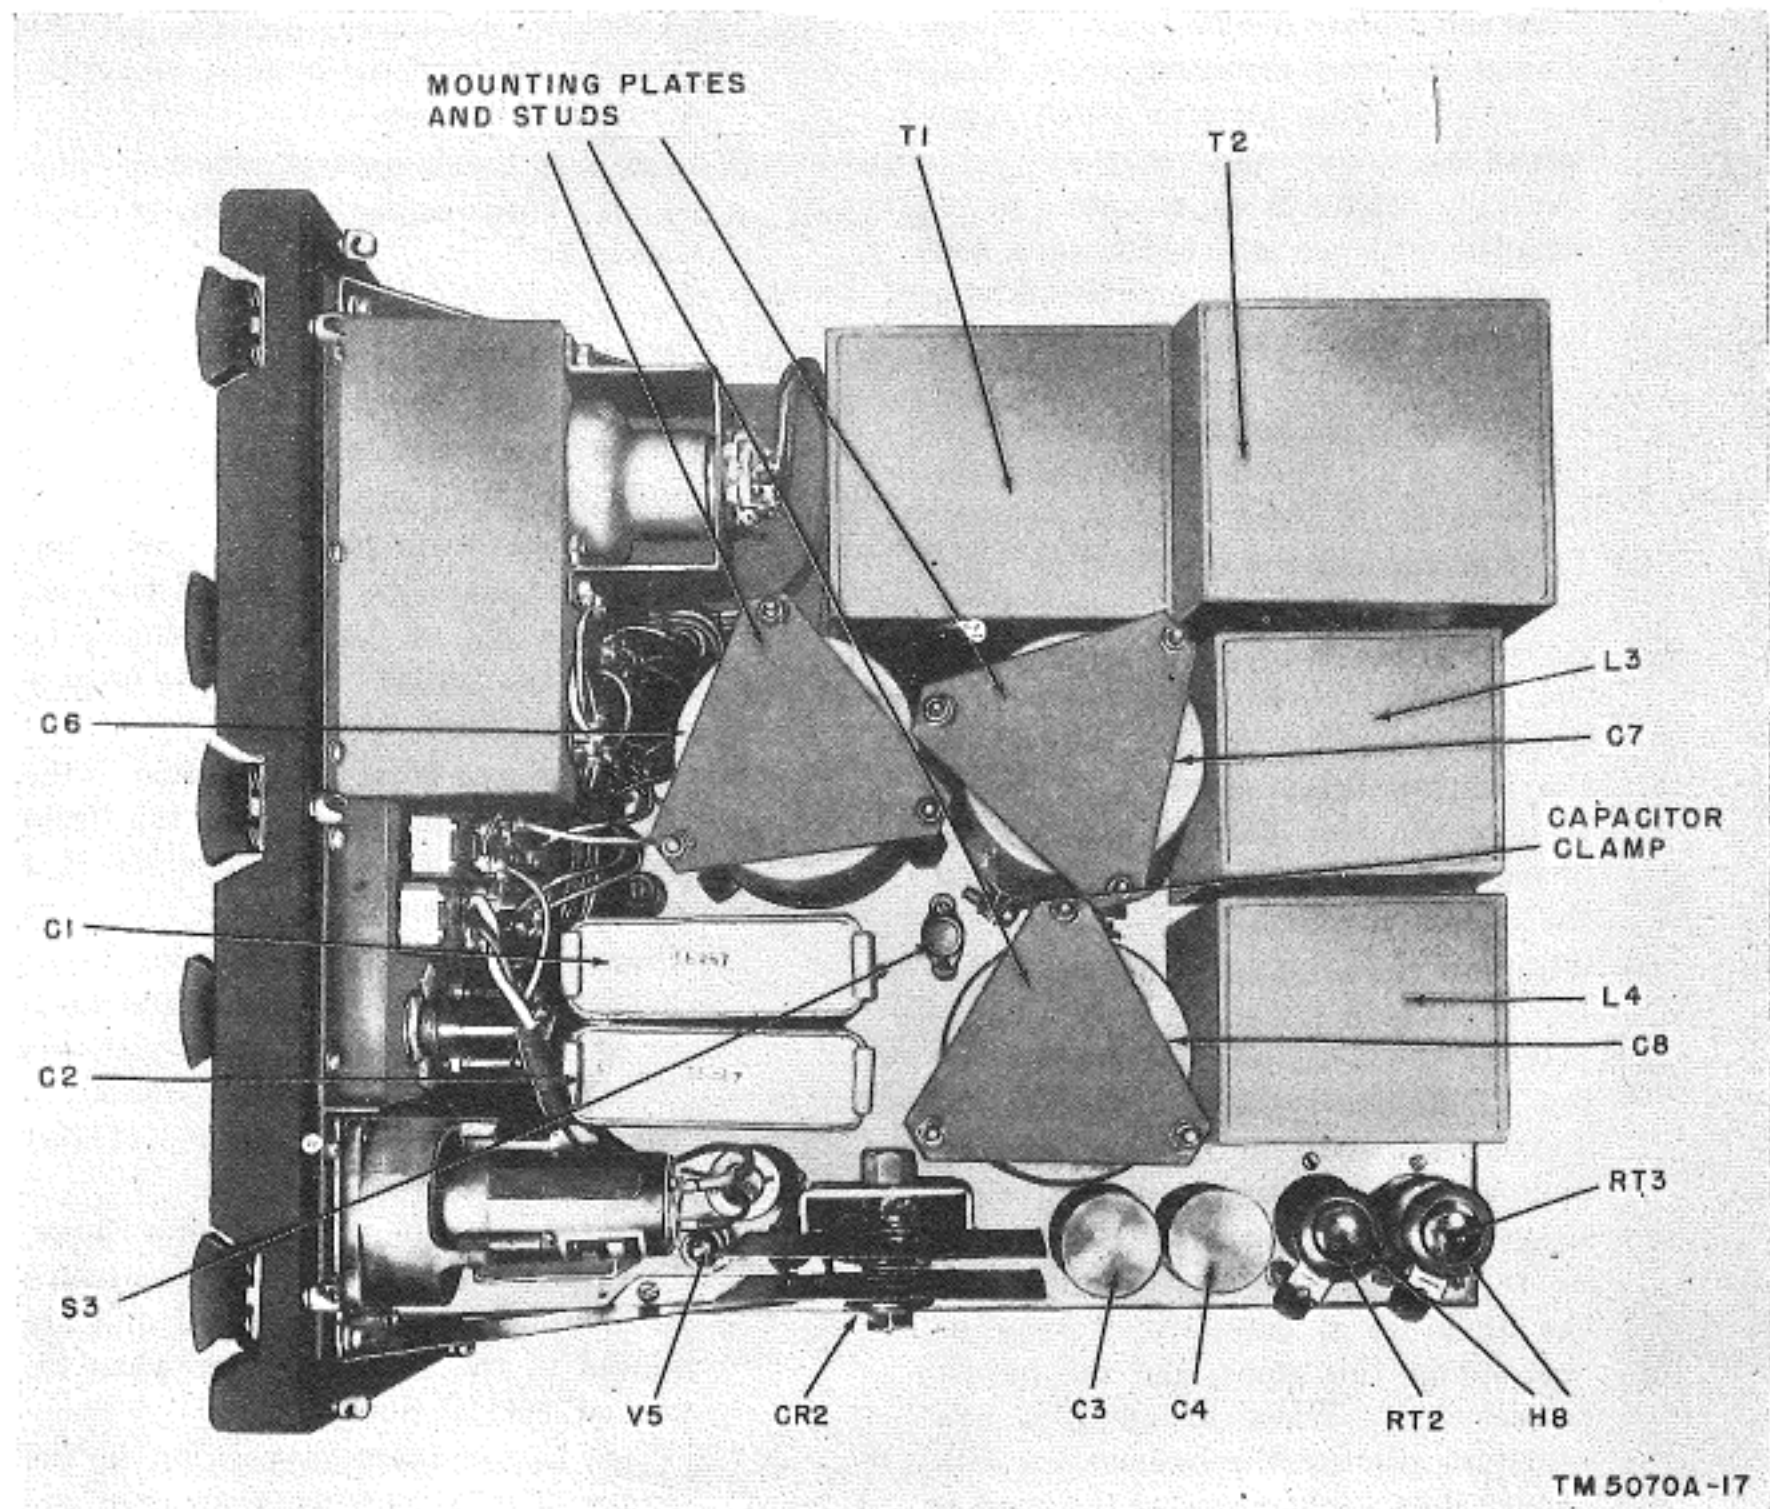

Figure 29. Power Supply PP-327A/GRC-9Y, top view.
*c. Parts Attached to Chassis.* Most of the parts on the chassis (figs. 29, 30, 31, and 32) can be easily reached and replaced by normal procedures. Remove the seven screws that hold the chassis to the panel and the two screws that hold each supporting bracket to the panel. Separate the panel from the chassis to replace relays K1 and K2, capacitors C9 and C10, rectifier CR1, and reactor L2, because these components are located directly below the brackets and subchassis that are mounted on the panel.
- (1) To replace capacitors C6, C7, and C8, remove the nuts on each end of the three mounting studs at the corners of the